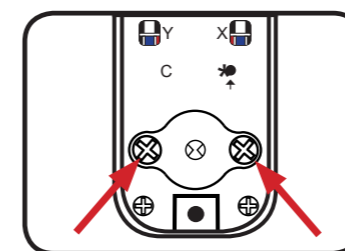

Fig.2
1. Turn the keypad (**Part No.1A**) over and remove the 2 screws either side of the spindle follower as per Fig.2.